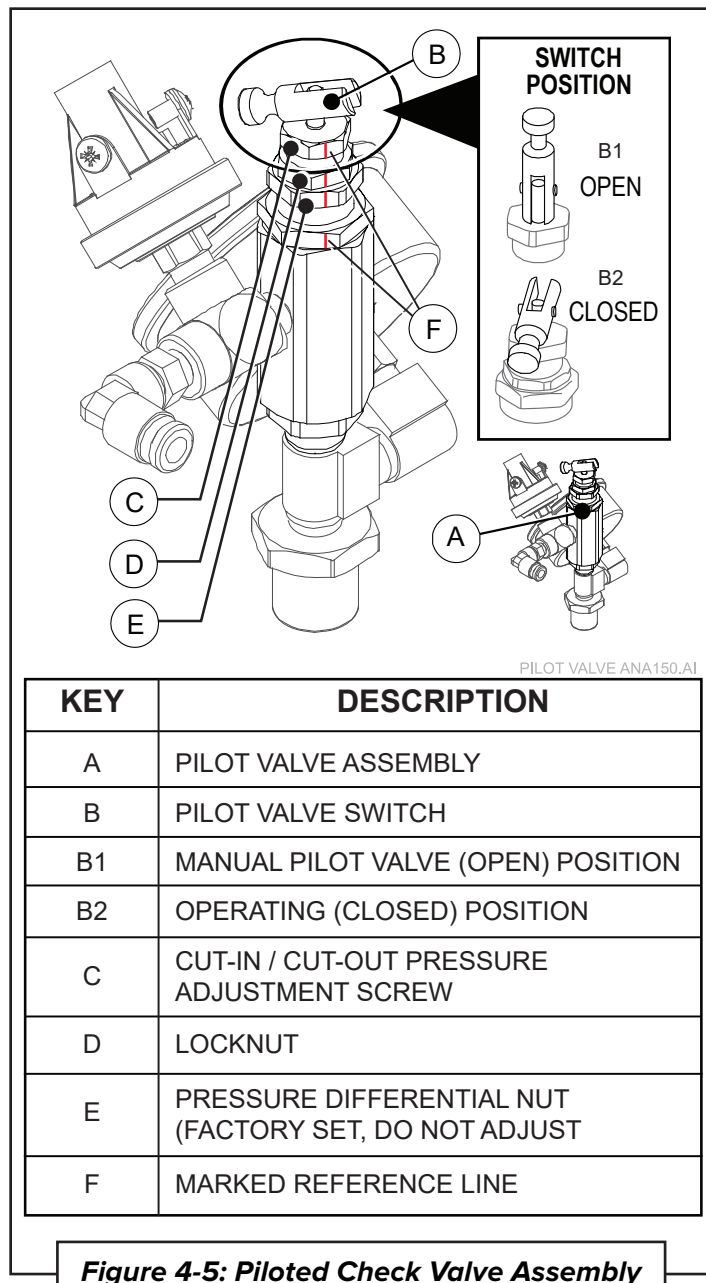

Figure 4-5: Piloted Check Valve Assembly
2. Attach the clamps of the battery charge cable to the battery to be charged. **RED** to the positive terminal first, **BLACK** to the negative terminal last. (See **Figure 4-5**.)